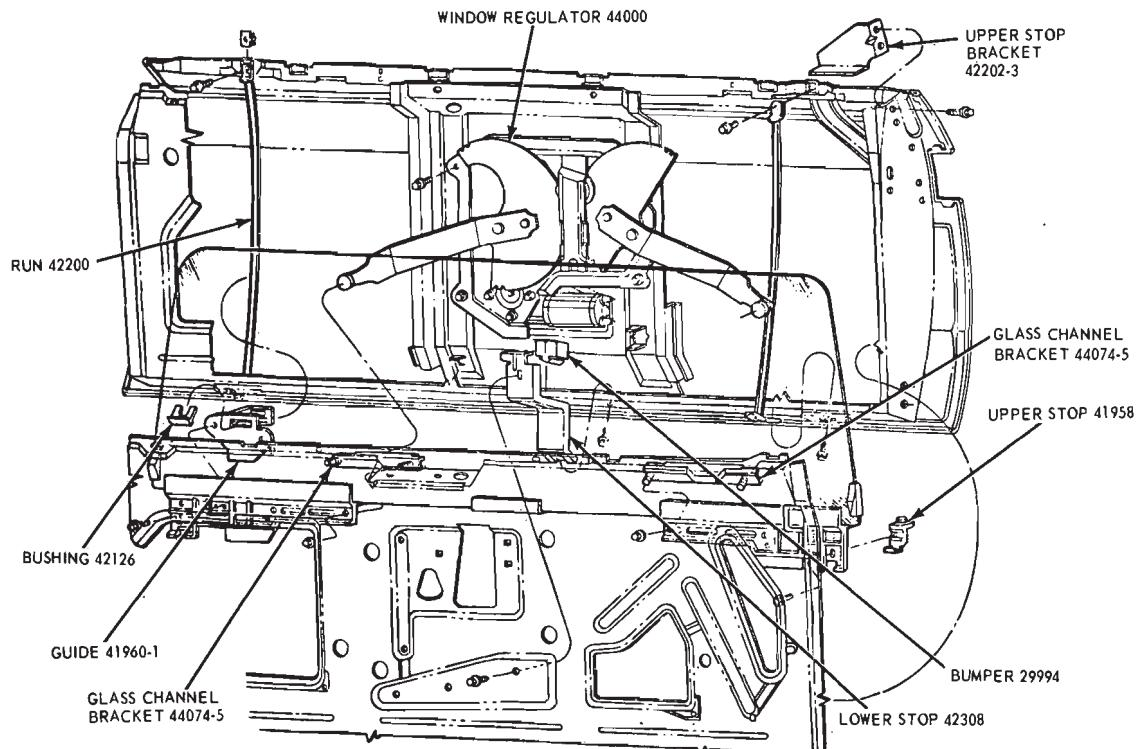

FIG. 1—Tailgate Window Mechanism—Typical
The tailgate glass is adjustable to obtain a watertight seal at the weatherstrip. To adjust the glass, loosen the two upper stops (Fig. 1). Then, loosen the glass run lower attaching screws (Fig. 1), and move the runs inboard or outboard to obtain a watertight
seal between the glass and the weatherstrip. Tighten the run attaching screws and adjust the upper stops. To obtain a proper side-to-side adjustment, loosen the screw and washer assemblies retaining the glass channel brackets to the guides (Fig. 1). Move the glass as required and tighten the screws.
2. Remove the right and left upper stops from the glass channel (Fig. 1).
3. Remove the right and left guides from the glass channel (Fig. 1).
4. Position the guides to the glass channel and runs. Insert the bushing in the right guide and install the guide attaching bolts (Fig. 1).